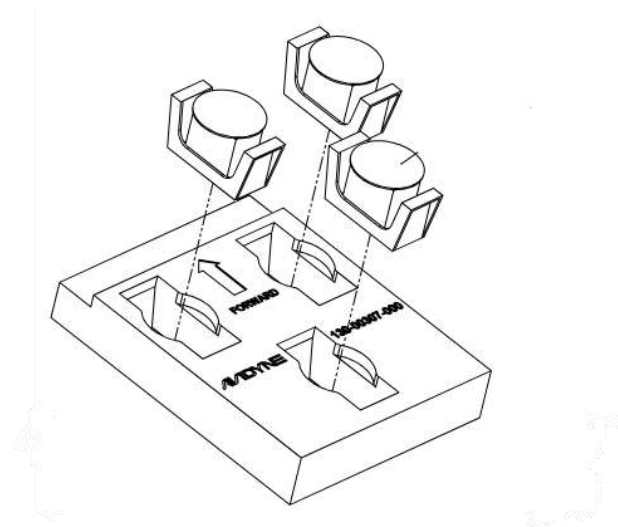

Figure 4-11: Loading the Threaded Standoffs into the Locator Tool
3. Insert threaded standoffs P/N: 150-00612-000 (CB3001AA06-8) into the locator tool as shown in Figure 4-11. Remove adhesive liner from standoff carriers.